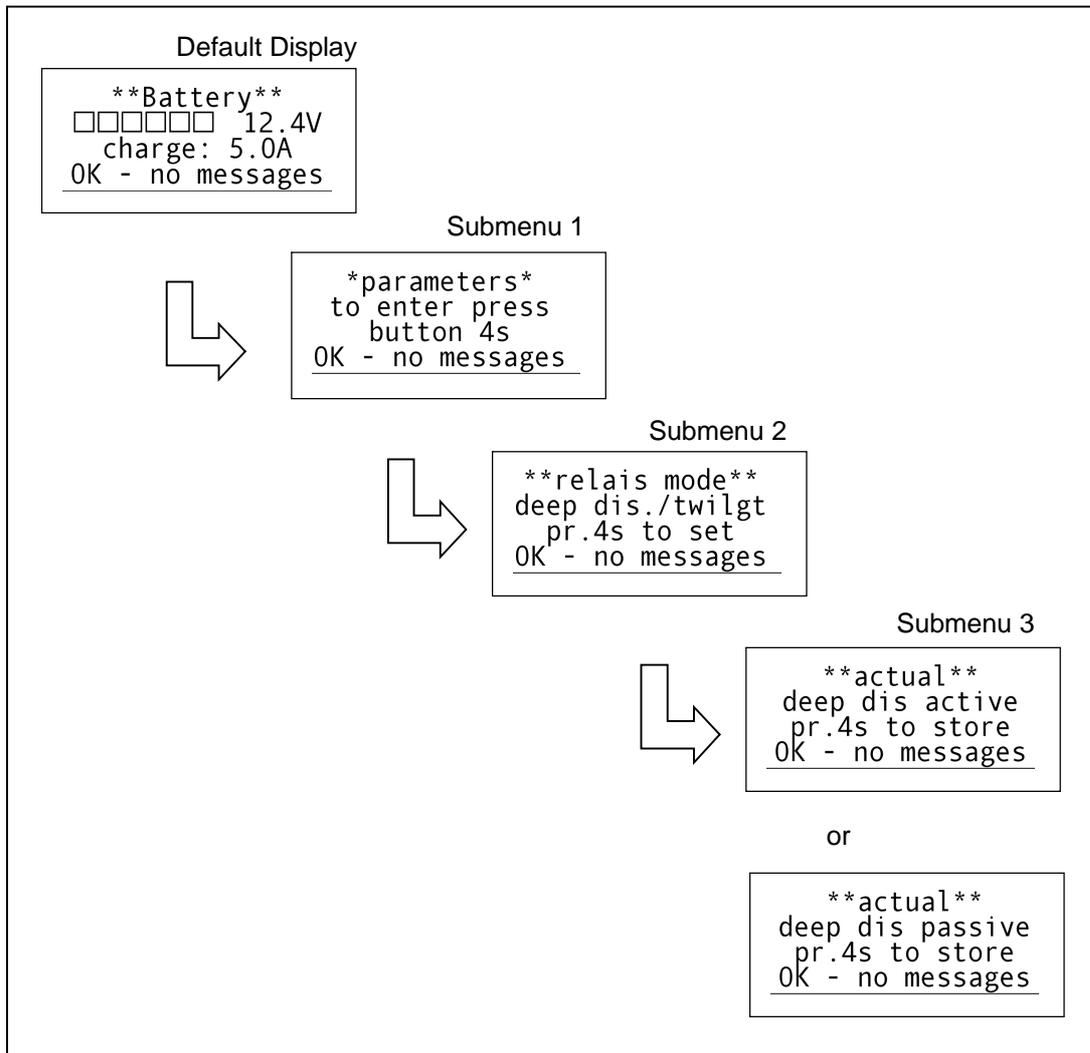

Fig. 9
4.2 Deep Discharge Protection (Fig. 9)